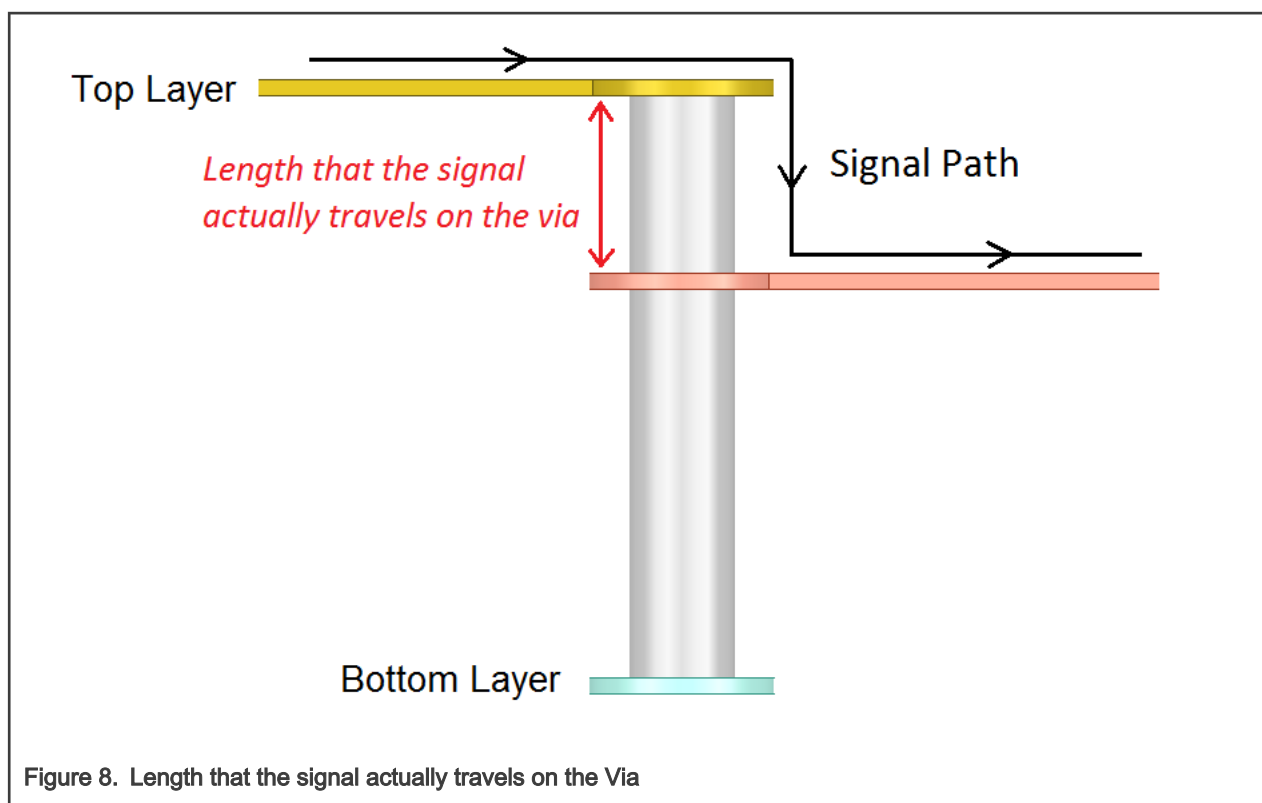

Figure 8. Length that the signal actually travels on the Via
10. Place at least one ground stitching via within 40 mils of signal via when switching reference planes to provide continuous return path and reduce crosstalk. If it is not possible to place enough ground stitching vias due to space limitation, try to make the length that the signal actually travels on the via as short as possible, as illustrated in Figure 8.